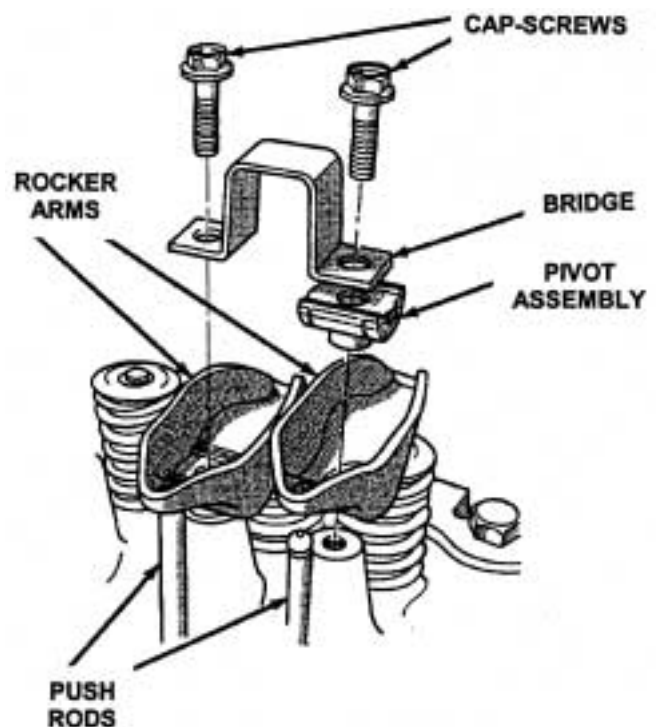

Figure 10
15. Remove the rocker arms, bridges, pivots and push rods (Figure 10).
74. Install the rocker arms and pivot and bridge assemblies in their original location. Loosely install the cap-screws at each bridge (Figure 10).